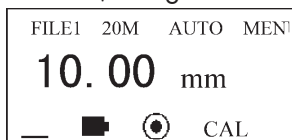

Figure 20
- b. Press ← to enter main menu, as figure 20.
- b. Press  $\leftarrow$  to enter main menu, as figure 20.
- Press  $\leftarrow$  to enter the main menu, as shown in the figure 20.
- Press  $\leftarrow$  to enter main menu, as shown in the figure 20
b. Press  $\leftarrow$  to get into menu, as shown in the figure 20.